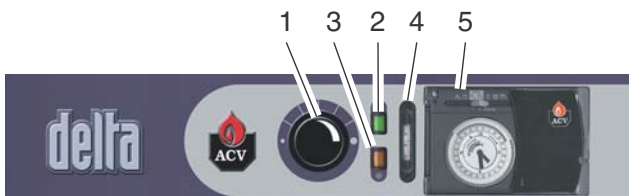

Fig. 21: Control panel
7.1.1 GETTING TO KNOW THE CONTROL PANEL (Fig. 21)
(item 2, Fig. 21)
1 - Control thermostat 60 to 90° C (item 1, Fig. 21)
2 - ON/OFF switch (item 2, Fig. 21)
3 - Summer/winter selector (item 3, Fig. 21)
4 - Thermometer (item 4, Fig. 21)
5 - Regulator (item 5, Fig. 21)